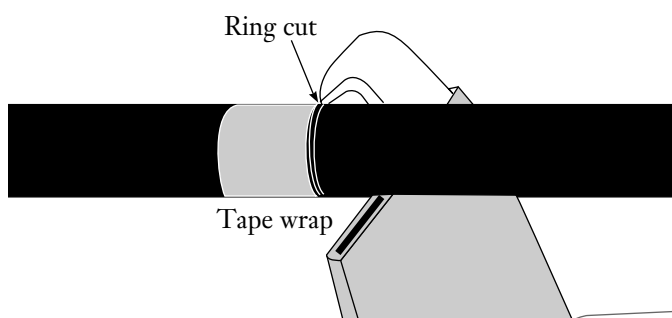

Figure 24
7.4 Taking care not to cut or flex the armor, use the hook blade knife to make a shallow ring cut through *only* the black outer sheath at both tape marks (Figure 24).